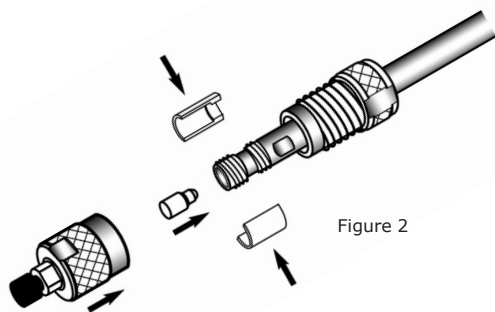

Figure 2
2. Place 2 split collets around the neck of the cartridge as shown in Figure 2.